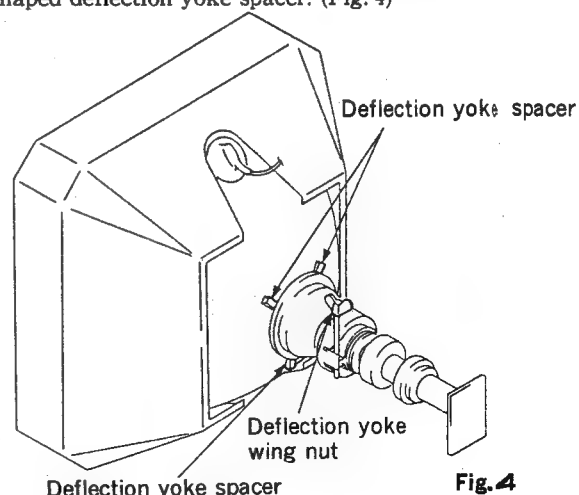

Fig. 4
- (7) Back out the deflection yoke slowly and stop when a uniform green is achieved on the screen.
- (8) Next, set to red only.
- (9) Perform the adjustment for a uniform red on the screen using the (◀, ▶) keys.
- (10) Similarly perform adjustment for uniform blue on the screen using the (◀, ▶) keys.
- (11) Confirm that the landing of red, green and blue is correctly adjusted. If mislanding is observed, repeat steps (5) through (10) again.
- (12) Tighten the deflection yoke. (Fig. 4)
- (13) If the vertical convergence is not adjusted correctly on the X-axis, tilt the deflection yoke and insert the wedge-shaped deflection yoke spacer. (Fig. 4)